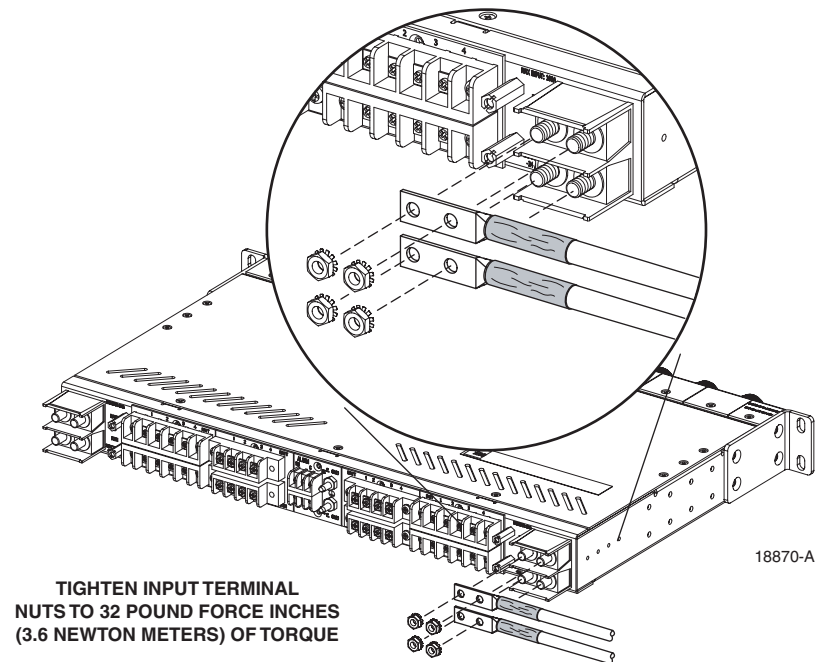

Figure 19. Input Power Connections
8. Use the nuts (with captive star washers) provided to secure the input power wires to the two input power terminals as shown in Figure 19. Each input power terminal has two terminals, labeled BATT and RTN. Connect the wires to the terminals as follows: